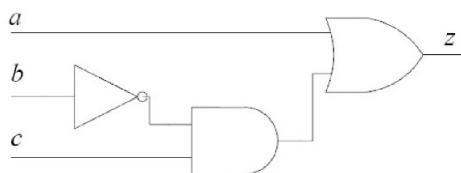

Fig. 4.28
53. Consider the boolean Function  $z(a, b, c)$  from Fig. 4.28 below. Which of the following minterm lists represent the circuit given above?